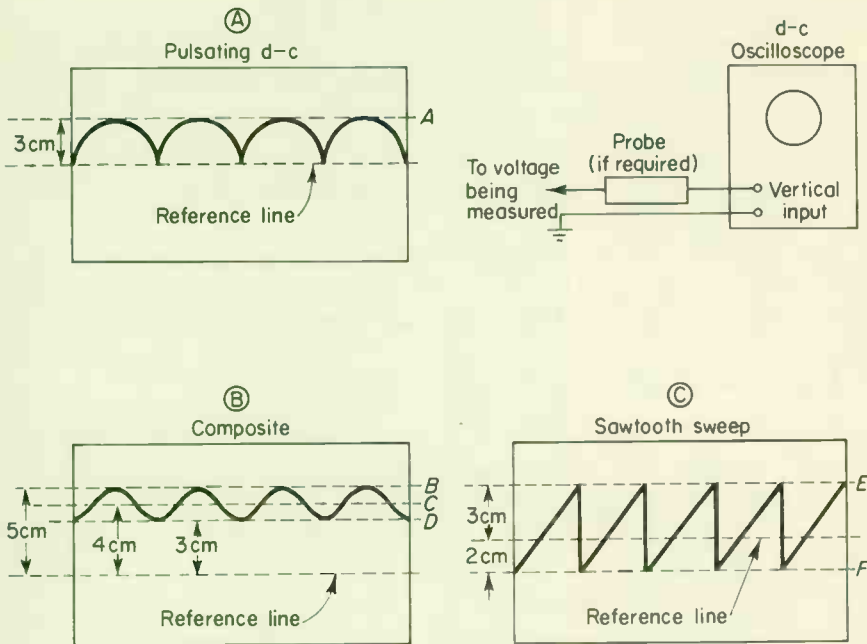

Fig. 6-11. Measurement of composite and pulsating voltages.
1. Connect the equipment as shown in Fig. 6-11.